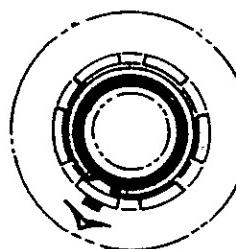

FIGURE 38
8.4 Lubricate the O-ring on the retention cap and install control knob with index resting above the 7:00 o'clock cam stop and secure in place. (Fig. 38)